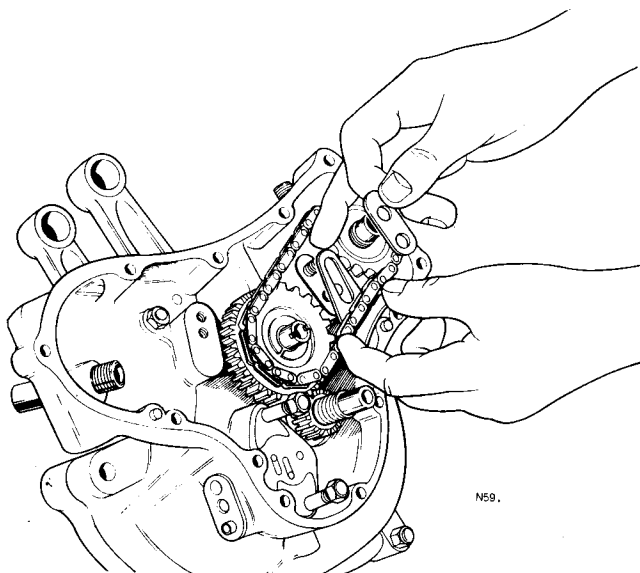

Fig. C38 Chain tensioner showing thin inner plate long end downwards
- 7 Assemble the chain tensioner as shown in Fig. C38, noting that the clamping plates differ, the inner one being thinner than the outer and the inner being fitted long end down whilst the outer clamping plate is fitted long end up.